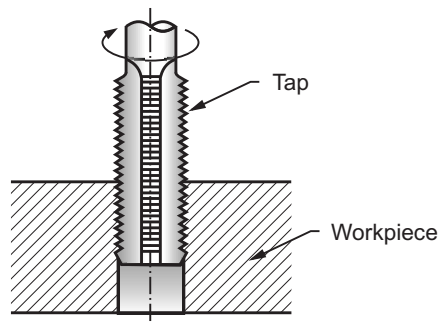

Fig. 5.18 : Tapping operation
- Fig. 5.18 shows tapping operation in which the tap is screwed into the hole and metal is removed.